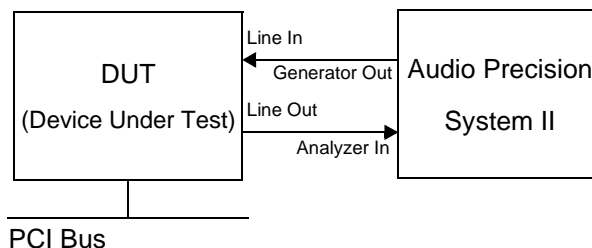

Figure 2 System Test Configuration
1. Connect Audio Precision System II to the DUT (Device Under Test) computer as shown in Figure 2.
1. Connect the Audio Precision System II to the DUT computer as shown in Figure 2 on page 1.